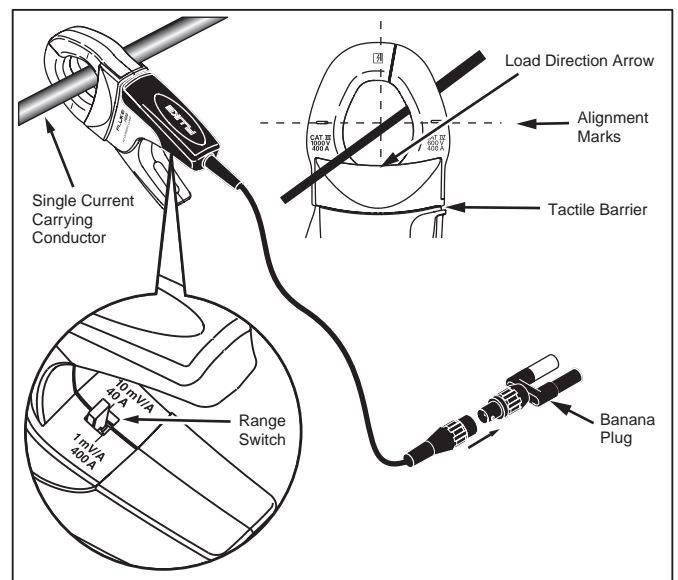

Figure 1. i400s Setup
- Do not hold the Current Clamp anywhere beyond the tactile barrier, see Figure 1.
To use the i400s, refer to “Measurement Considerations” and Figure 1:
**To avoid shock or personal injury, keep fingers behind the tactile barrier, see Figure 1.**